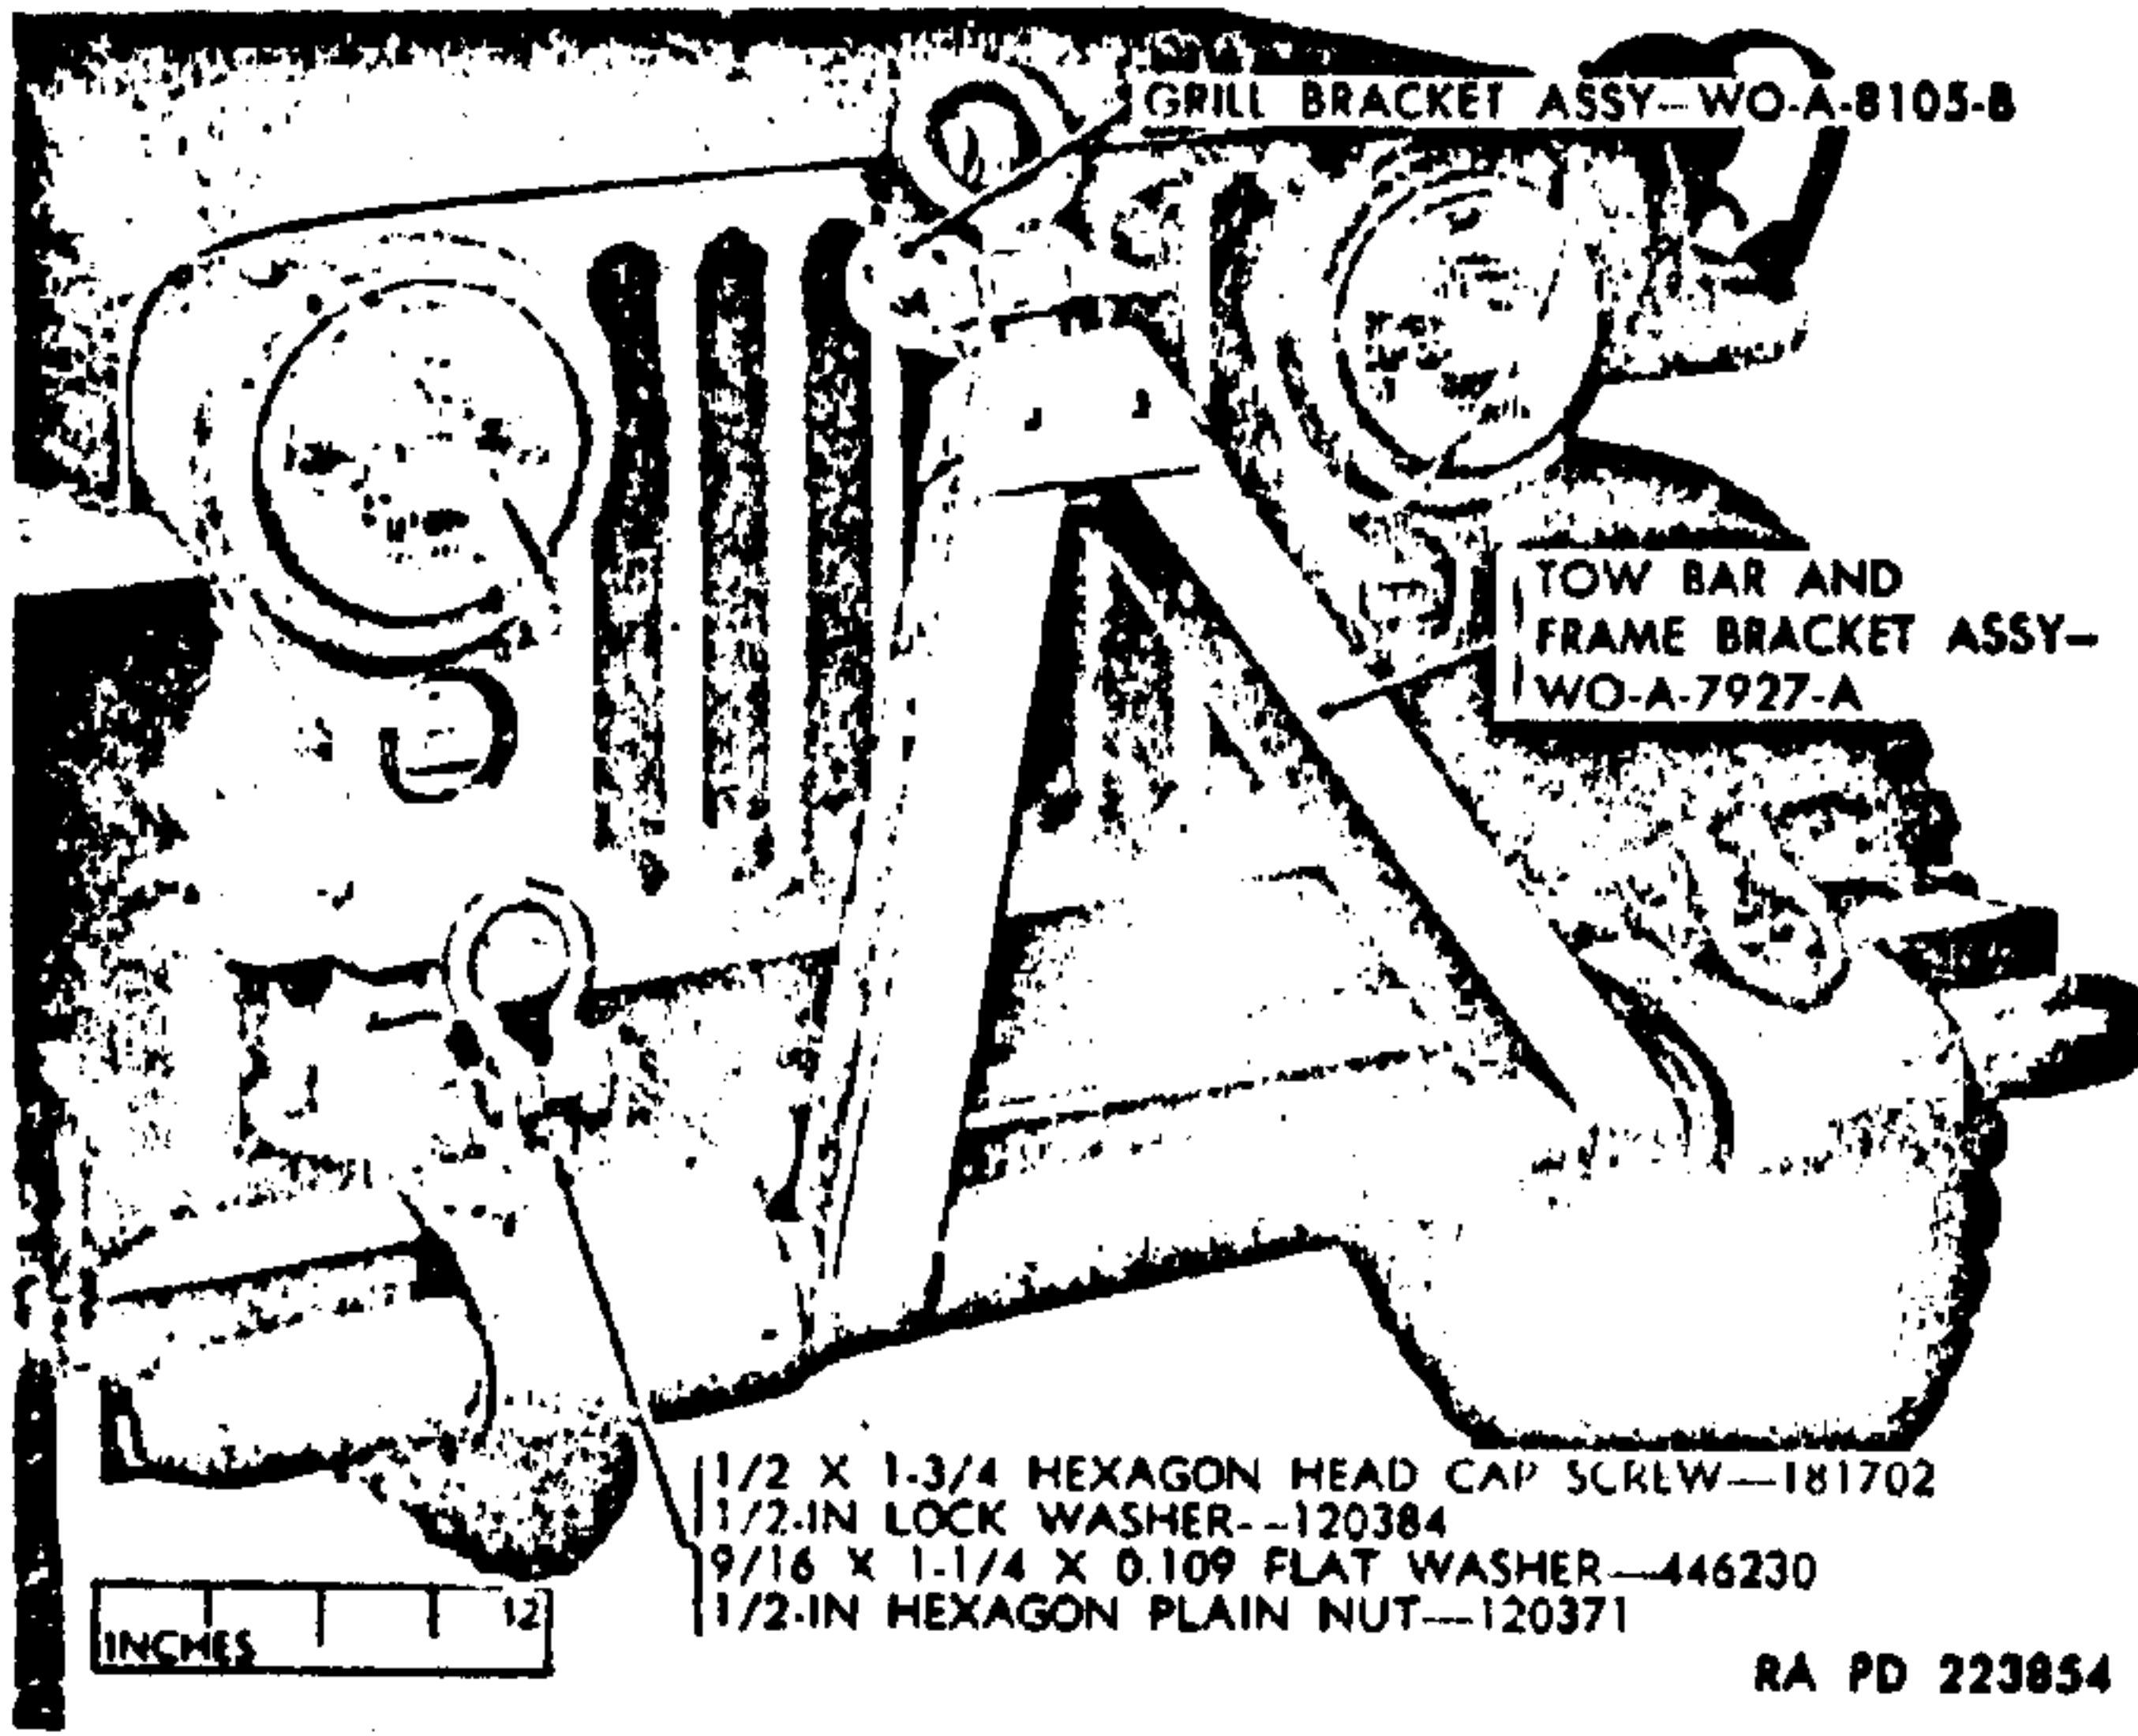
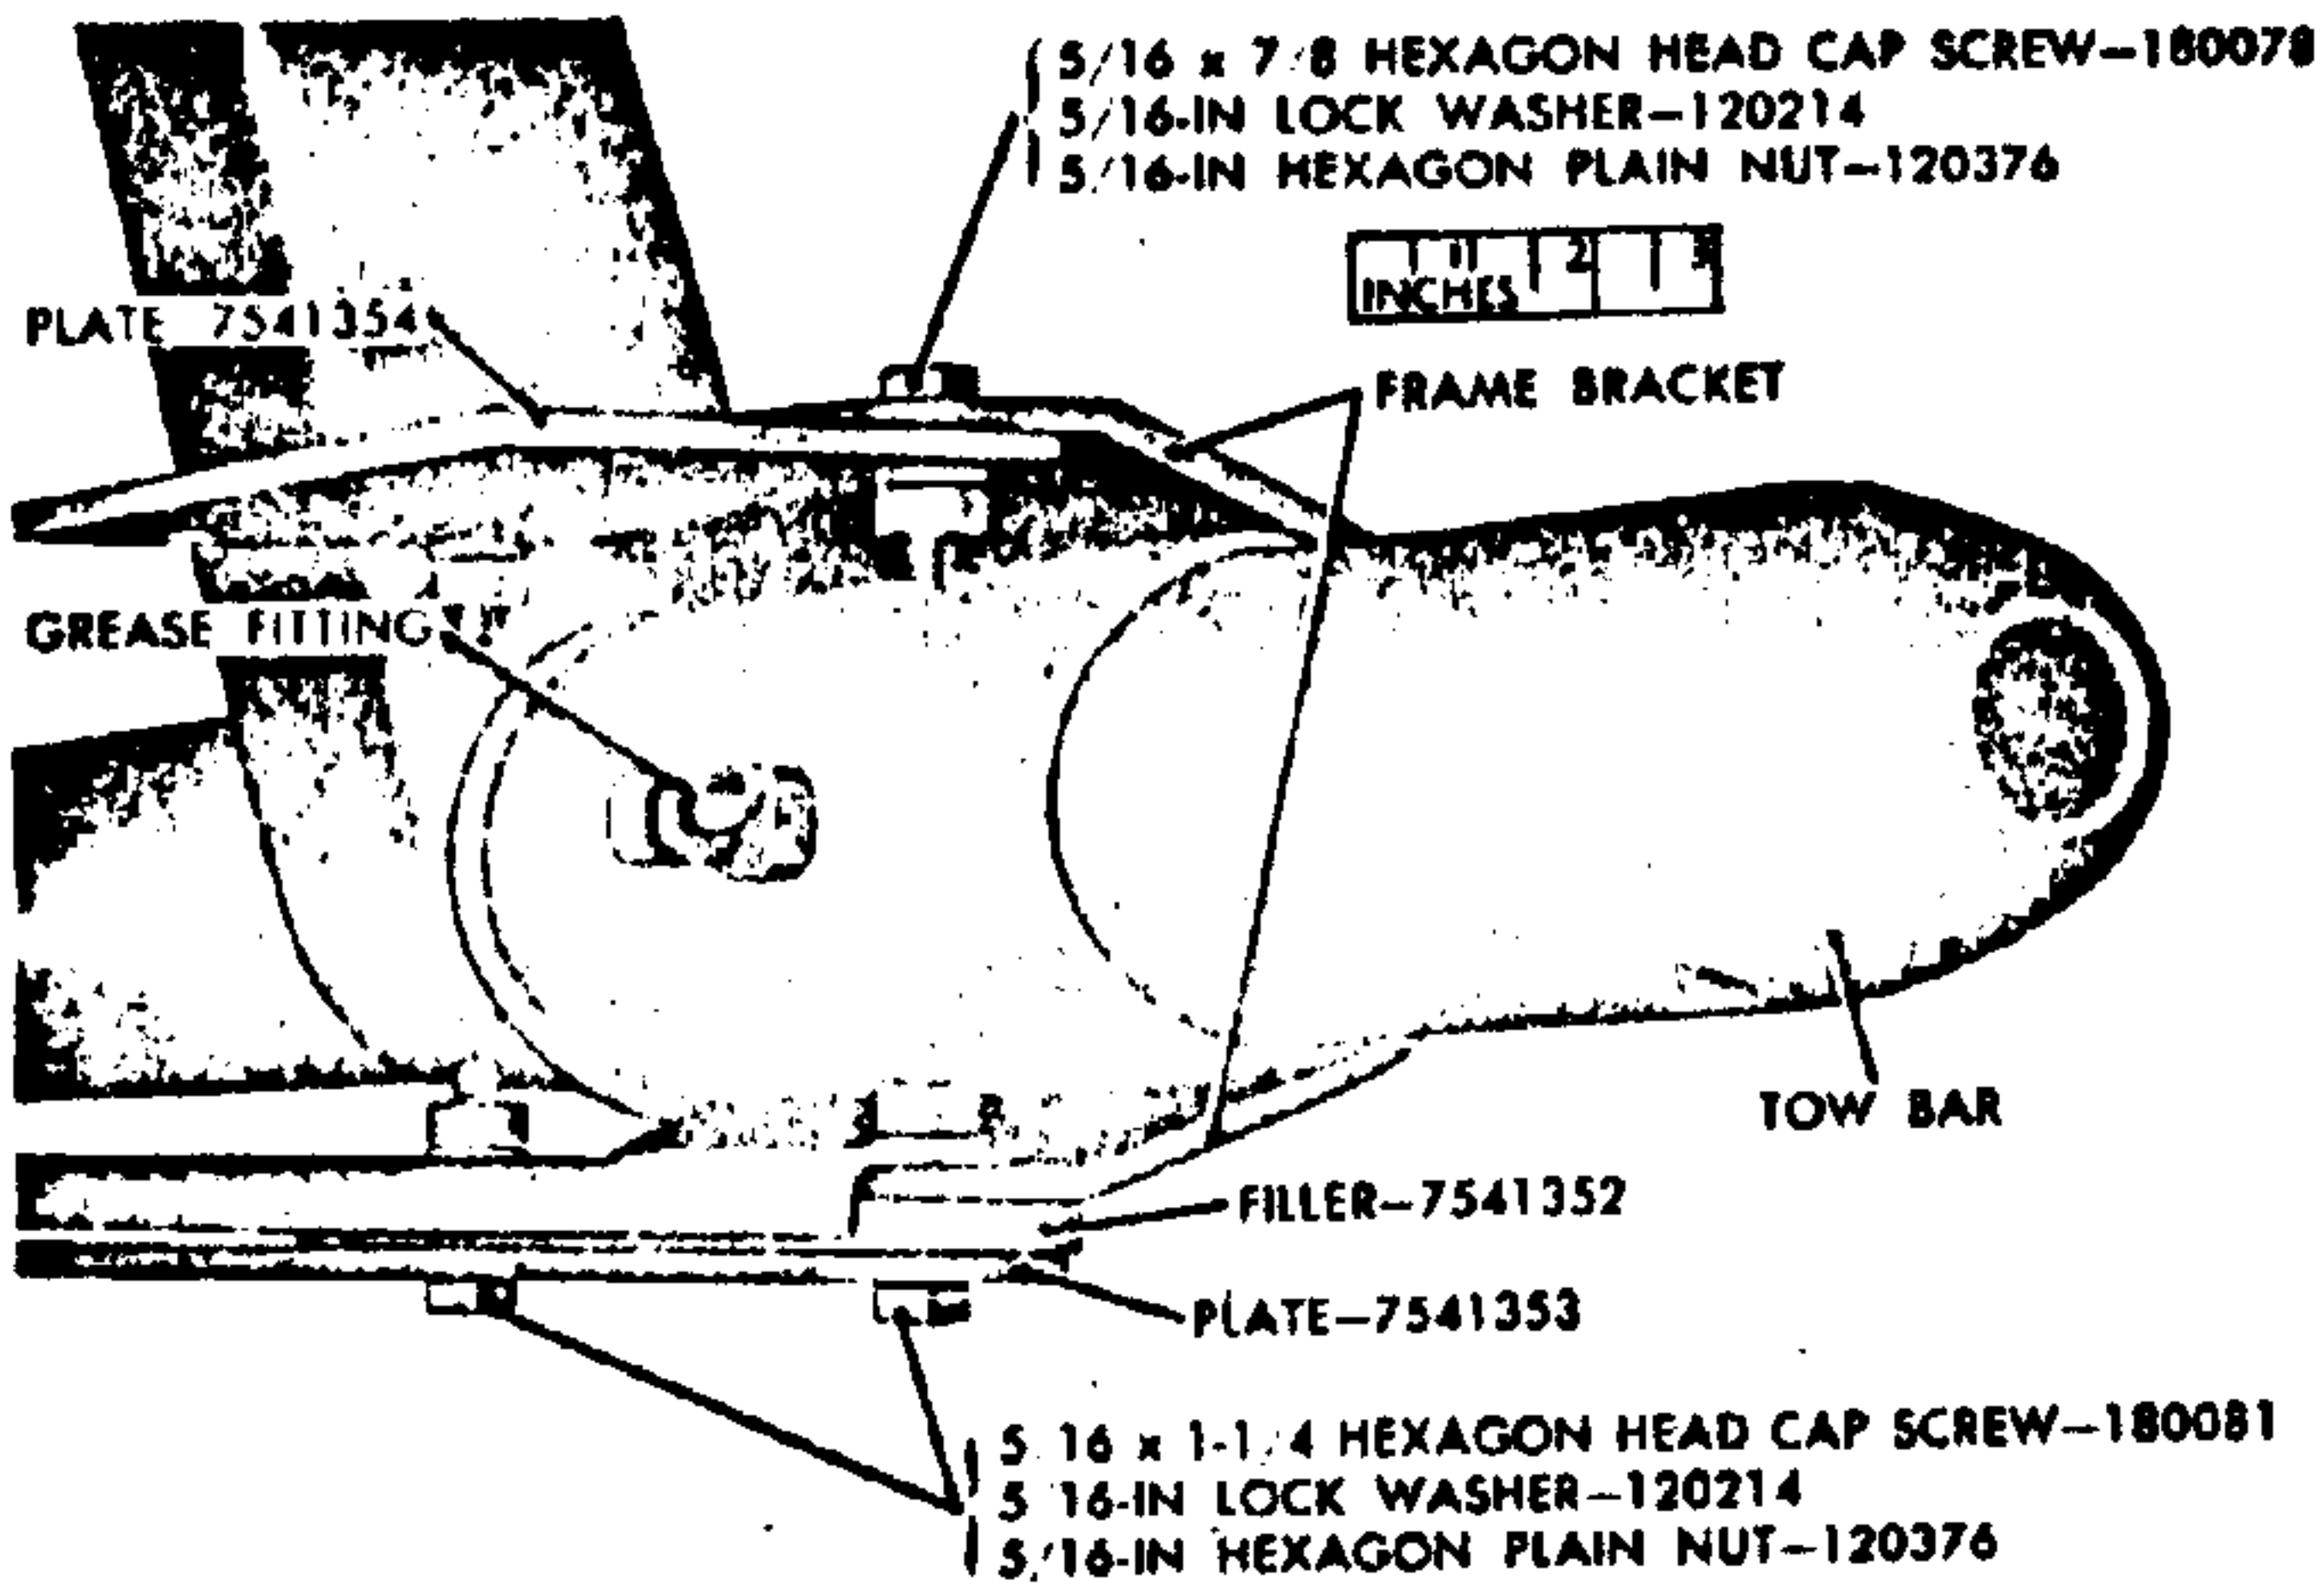
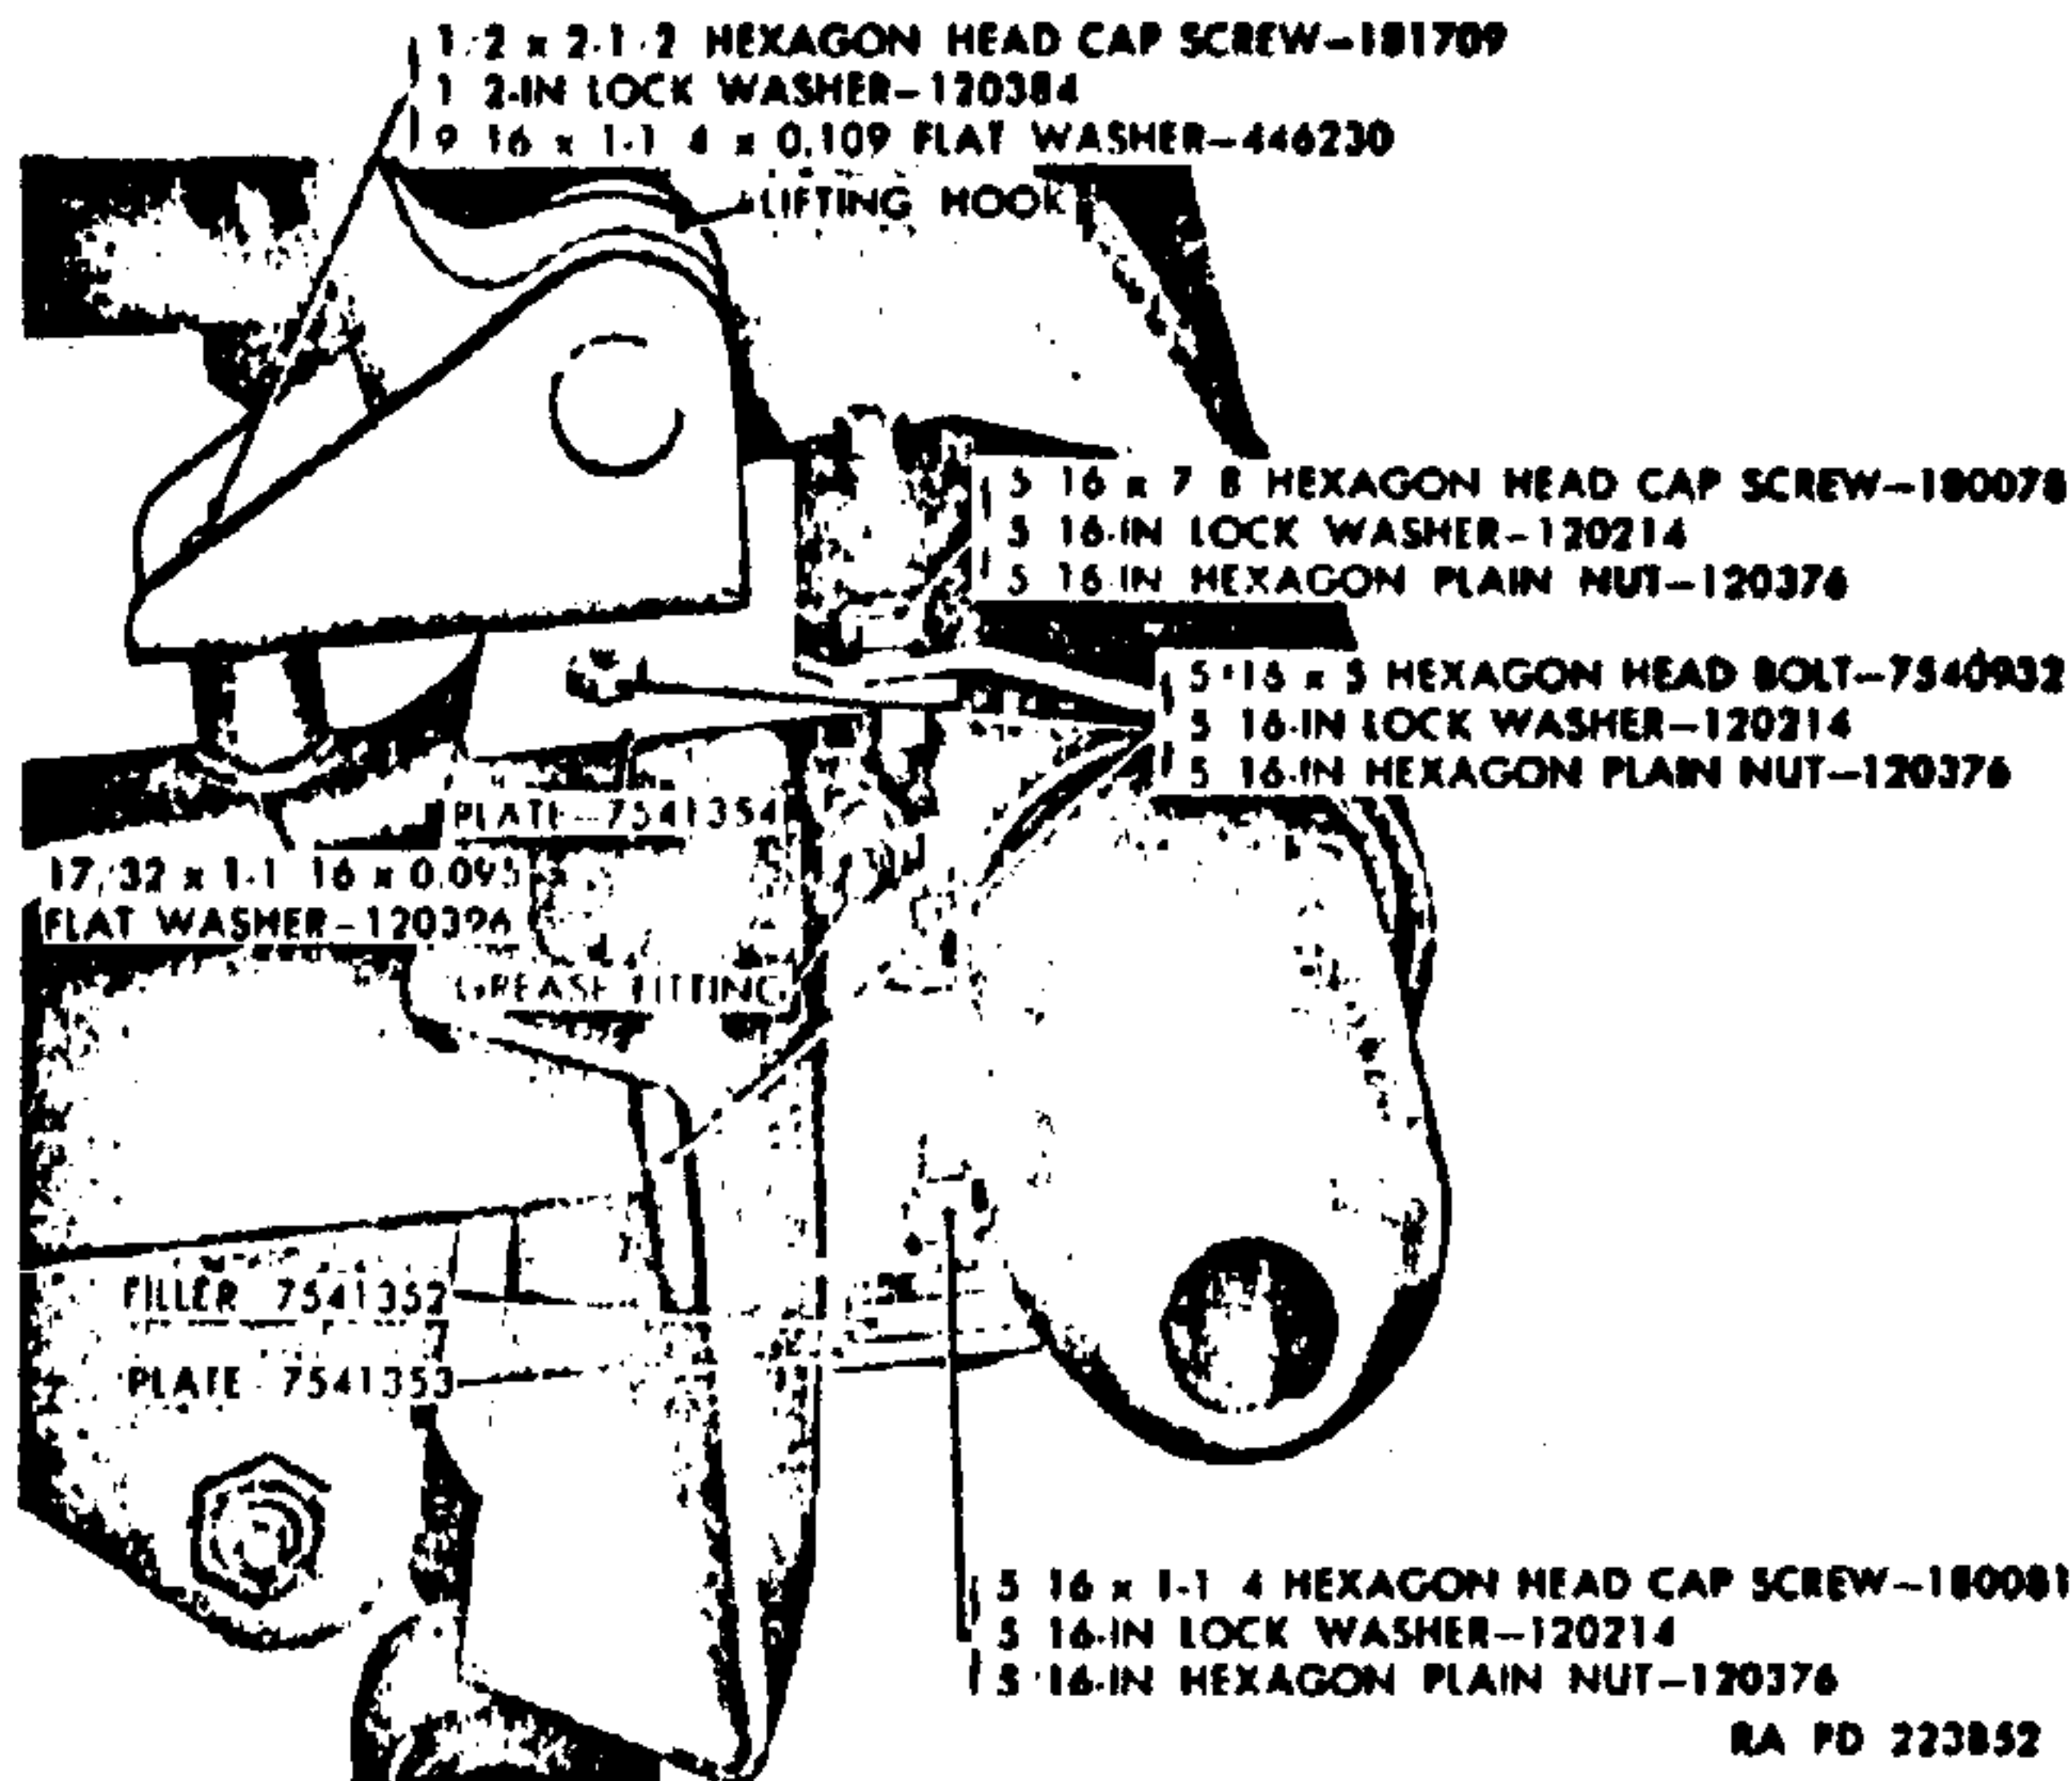

Figure 1. Tow bar and frame bracket assembly and grill bracket assembly installed.
Figure 2. Filler and plates installed on the tow bar and frame bracket assembly.
Figure 5. Tow bar and frame bracket assembly WO-7927-A installed.
(1) Tow bar and frame bracket assembly WO-A-7927-A (figs. 1 and 4).
(a) Tighten the grease fittings (fig. 2) leaving the open end of each fitting pointing toward the outer end of the tow bar.
(b) Mount one filler 7541352 and one plate 7541353 (fig. 3) on the bottom of each frame bracket using two $\frac{5}{16}$ x $1\frac{1}{4}$ hexagon head cap screws 180081, two $\frac{5}{16}$ -inch lockwashers 120214 and two $\frac{5}{16}$ -inch hexagon plain nuts 120376 for each filler and plate (fig. 2). Install the plates with the
- (c) Mount one plate 7541354 (fig. 3) underneath the top lip of each frame bracket using two $\frac{5}{16}$ x $\frac{7}{8}$ hexagon head cap screws 180078, two $\frac{5}{16}$ -inch lockwashers 120214, and two $\frac{5}{16}$ -inch hexagon plain nuts 120376 for each plate (figs. 2 and 4).
- (e) Fit the tow bar and frame bracket assembly WO-A 7927-A, with plates attached, over the bumper bar and frame gussets (fig. 1). Fasten in place using four $\frac{5}{16}$ x 5 hexagon head bolts 7540932, four $\frac{5}{16}$ -inch lockwashers 120214, and four $\frac{5}{16}$ -inch hexagon plain nuts 120376 (fig. 5). Tighten all bolts and nuts securely.
- (2) *Grill bracket assembly.* Place the grill bracket assembly WO-A 8105-B (fig. 4) against the grill with the lunette stub (fig. 4) of the tow bar fitted in the bracket assembly (fig. 1). Fasten the bracket assembly to the grill using two $\frac{1}{4}$ -inch hook bolts WO-A 8103-D, two $\frac{5}{16}$ x $\frac{3}{4}$ x 0.065 flat washers 120386, and four $\frac{1}{4}$ -inch hexagon plain nuts 219430 (fig. 6).
- (1) *Tow bar and frame bracket assembly WO-A 7927-A* (figs. 1 and 4).
- (a) Tighten the grease fittings (fig. 2) leaving the open end of each fitting pointing toward the end of the tow bar.
- (d) Position one plate 7541354 (fig. 3) above the bumper at the frame on each side of the vehicle and place a lifting hook in position, on top of each plate (fig. 5). Bolt the front of each lifting hook to the plate, bumper bar, and frame using one $\frac{1}{2}$ x $1\frac{3}{4}$ hexagon head cap screw 181702, one $\frac{1}{2}$ -inch lockwasher 120384, one $\frac{9}{16}$ x $1\frac{1}{4}$ x 0.109 flat washer 446230, and one $\frac{1}{2}$ -inch hexagon plain nut 120371 for each lifting hook (fig. 1). Place two $\frac{17}{32}$ x $1\frac{1}{8}$ x 0.095 flat washers 120396 under the existing spacer at the rear of each lifting hook (fig. 5). Bolt the rear of each lifting hook in place using one $\frac{1}{2}$ x $2\frac{1}{2}$ hexagon head cap screw 181709, one $\frac{1}{2}$ -inch lockwasher 120384, and one $\frac{9}{16}$ x $1\frac{1}{4}$ x 0.109 flat washer 446230 for each lifting hook (fig. 5).
- (e) Position the tow bar frame bracket assembly WO-A-7927-A on the vehicle. Secure the top lip of the frame brackets to the plates 7541354 using two $\frac{5}{16}$ x $\frac{7}{8}$ hexagon head cap screws 180078, two $\frac{5}{16}$ -inch lockwashers 120214, and two $\frac{5}{16}$ -inch hexagon plain nuts 120376 for each side of the assembly. Position the fillers 7541352 (fig. 3) between the bottom lip of the frame brackets and the plates 7541353 (figs. 2 and 5) and fasten the assembly and fillers to the lower plates using two $\frac{5}{16}$ x $1\frac{1}{4}$ hexagon head cap screws 180081, two $\frac{5}{16}$ -inch lockwashers 120214, and two $\frac{5}{16}$ -inch hexagon plain nuts 120376 for each side of the assembly (fig. 5).
washers 120214, and two $\frac{5}{16}$ -inch hexagon plain nuts 120376 for each side (fig. 5).
(1) *Tow bar and frame bracket assembly WO-A-7927-A* (figs. 1 and 4).
- (2) *Grill bracket assembly.* Install as outlined in a(2) above for Willys MB and Ford GPW.
- (3) *Pintle hook reinforcing plate.* The plate is not required.
- (4) *Caution plate.*
- (b) *Willys M38A1.* Install as outlined in a(4) above for Willys MB and Ford GPW.
6. Lubrication. Lubricate the tandem hitch at the grease fittings (figs. 2 and 5) with automotive and artillery grease (GAA).